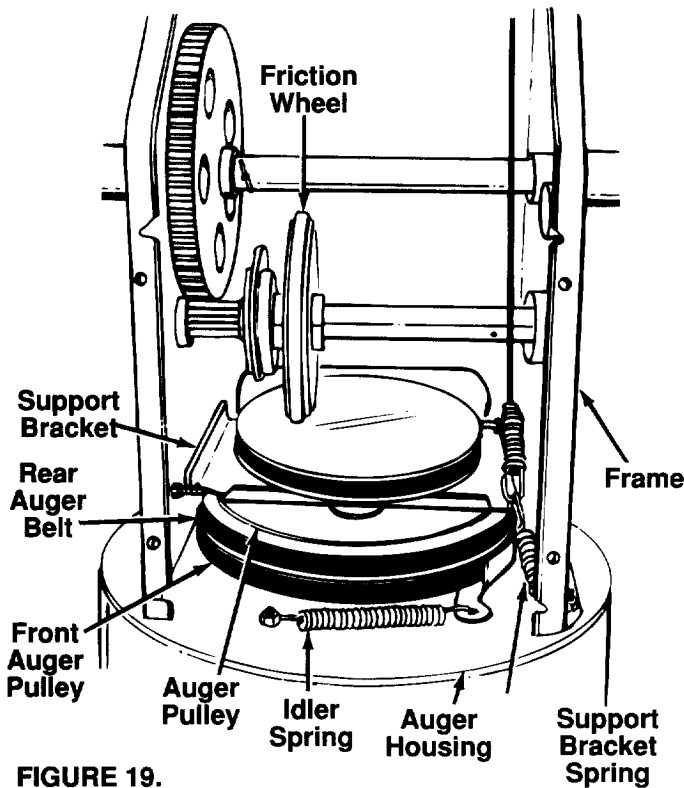

FIGURE 19.
6. Unhook the idler spring from the hex bolt on the auger housing. See figure 19.
8. Lift the front auger belt from the auger pulley, and slip belt between the support bracket and the auger pulley. See figure 19. Repeat this step for rear auger belt (except model 610E).